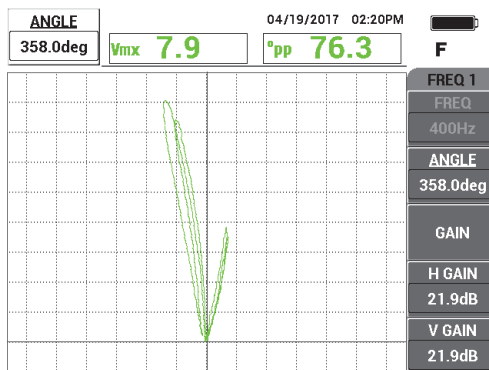

Figure 5-215 Adjusting the gain and angle
7. Adjust the **ANGLE** as required (see Figure 5-215 on page 281).